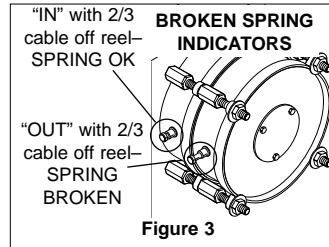

Figure 3
B. Check for broken springs by pulling about 2/3 hose off reel and observing "Broken Spring Indicators" on sides of spring canisters (Fig. 3).